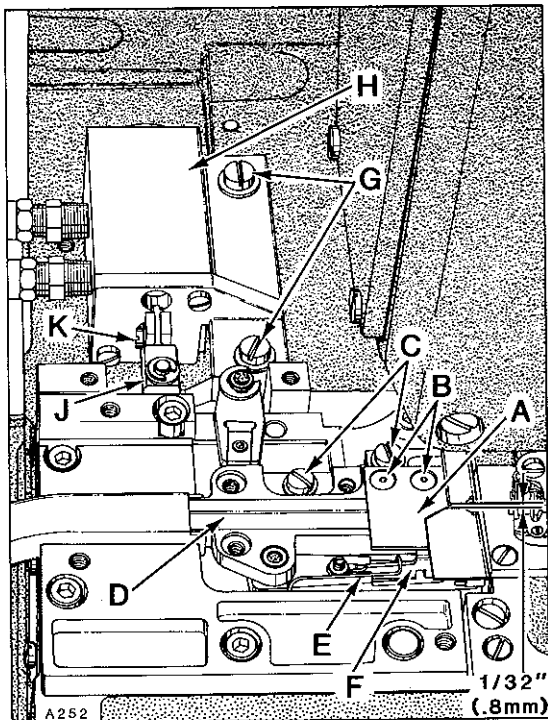

Fig.27
Upper knife (A, Fig. 27) can be replaced by removing two screws (B). To replace lower knife, the upper knife must be removed and rear suction tube cover. Loosen two screws (C) and slide housing (D) towards the rear. Remove throat plate support with throat plate attached. Remove screw (A, Fig. 28) and lift up thread inlet (B). Unhook knife spring (E, Fig. 27) and remove lower knife (F). Reassemble knives in reverse manner. Reassemble thread inlet (B, Fig. 28) and slide housing (D, Fig. 27) forward against rear of throat plate; tighten two screws (C).
**IMPORTANT:** Be sure that lower knife does NOT strike against knife housing or feed chamber cover. Adjustment should be accomplished by loosening two screws (G, Fig. 27) and reposition air motor (H) left or right slightly, but under extreme circumstances it may become necessary to shorten the stroke of lower knife travel by repositioning coupling (J).
Carefully press against lower knife (F, Fig. 27) until air motor stalls. With treadle still depressed, check the knife cross over. Cross over of lower knife to upper knife is positioned correctly when the lower knife is 1/32 inch (.8mm) from the front of upper knife as shown in Figure 27. If adjustment is required, loosen screw (K) and reposition coupling (J) as required to obtain specified dimension.